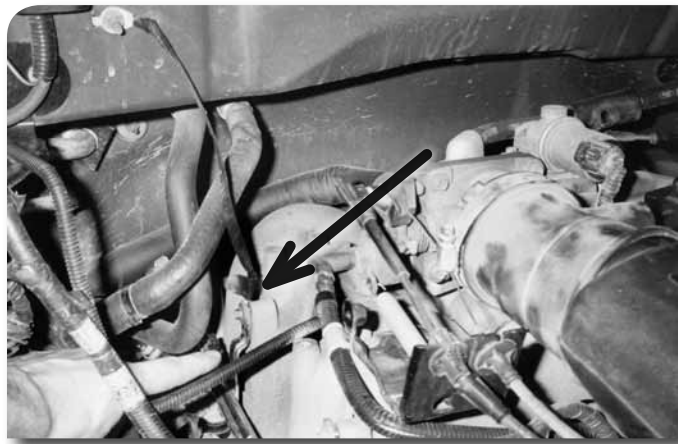

Figure 5
14. Relocate the ground strap (if equipped) that runs from the upper firewall to the passenger's side of the intake manifold. Remove the wire that is mounted on the intake manifold and relocated it to the rear fuel rail mount. Figure. 5 shows relocated position.